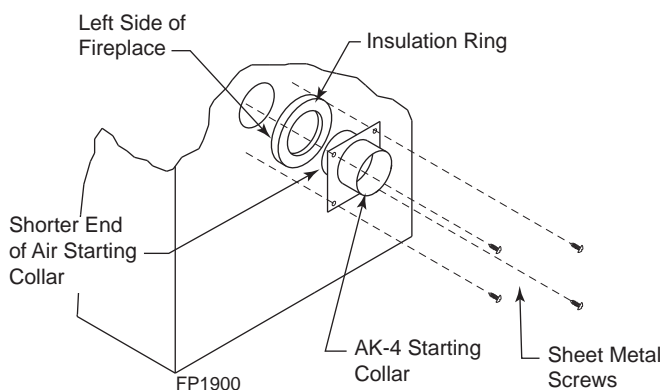

Figure 64 -
3. Place the starting collar (4") into the hole on the side of fireplace. Fasten it in place with the four sheet metal screws provided. *Figures 64 and 65*